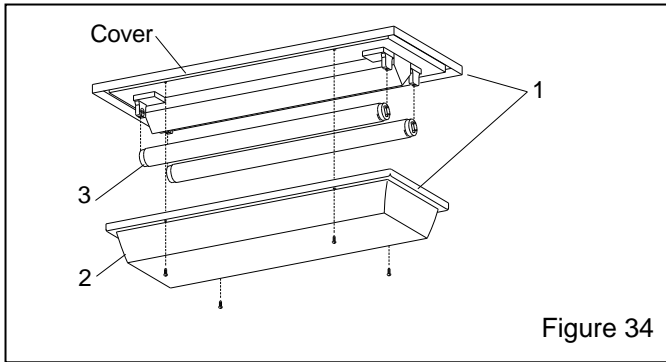

Figure 34
10.4 Light Assembly – Figure 34